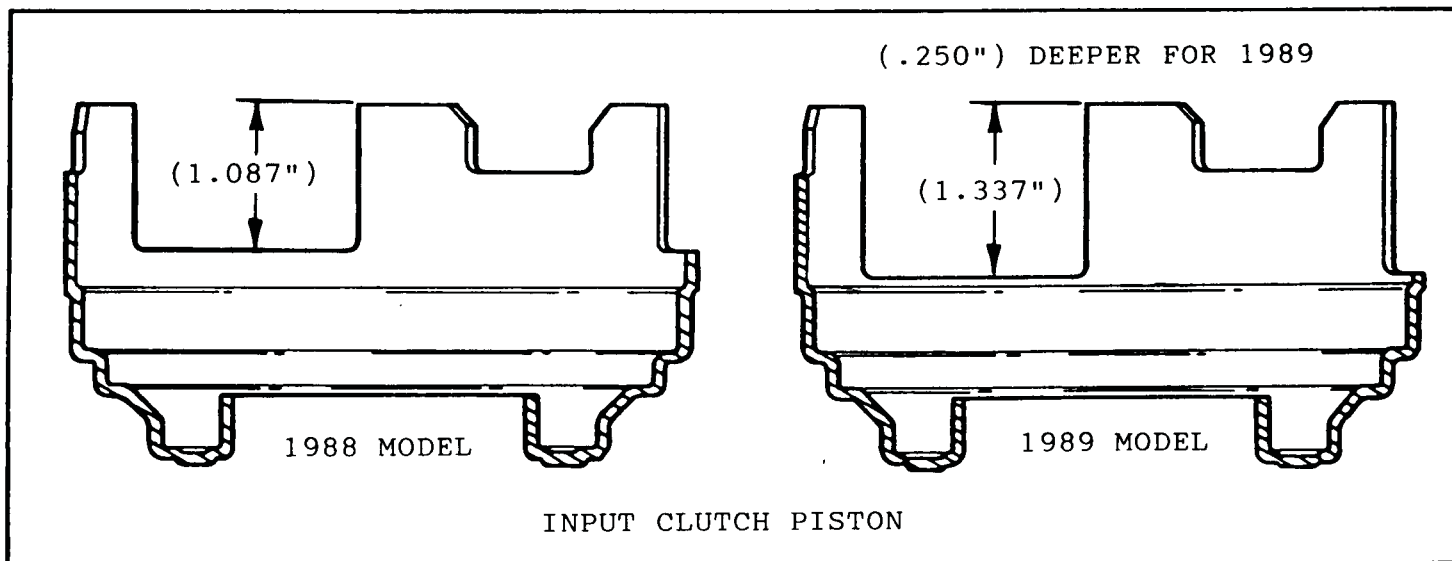

Figure 85
- (4) Input Clutch Piston - The cutouts in the piston for the 3rd clutch plates are .250" deeper to accomodate the additional two clutch plates in the 3rd clutch pack (See Figure 85).